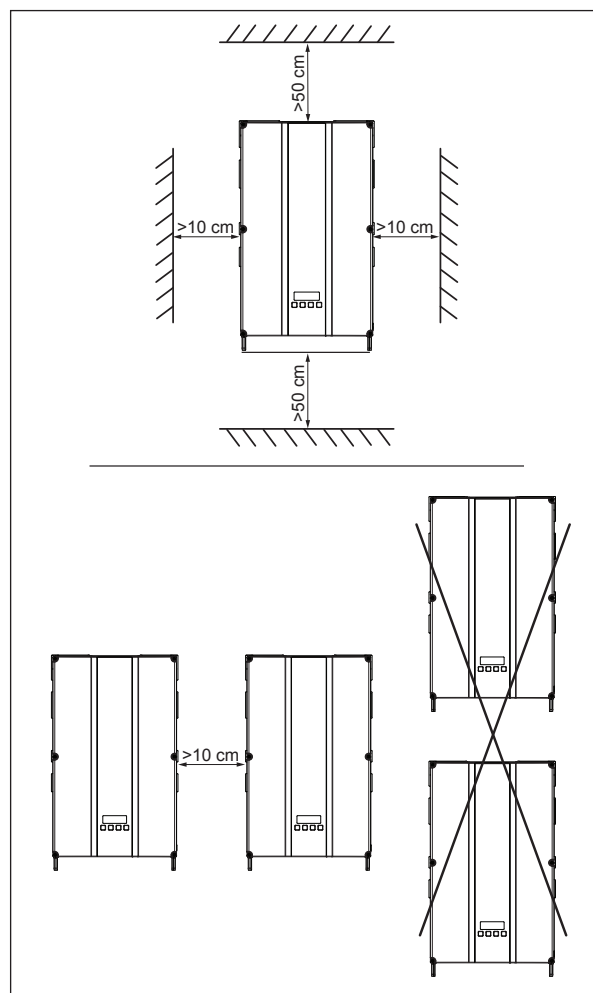

Fig. 7.2.: Mounting clearances for correct convection
- Be sure to adhere to the specified minimum clearances to walls and other solar power inverters when installing the device (see Fig. 7.2.).